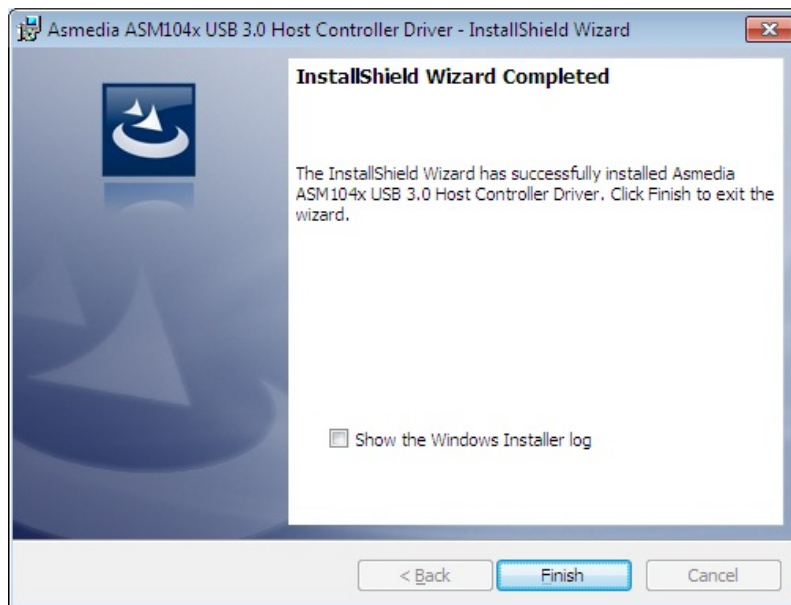

Figure 6-24: USB 3.0 Driver Installation Finish Screen
Step 10: When the driver installation is complete, the screen in **Figure 6-24** appears